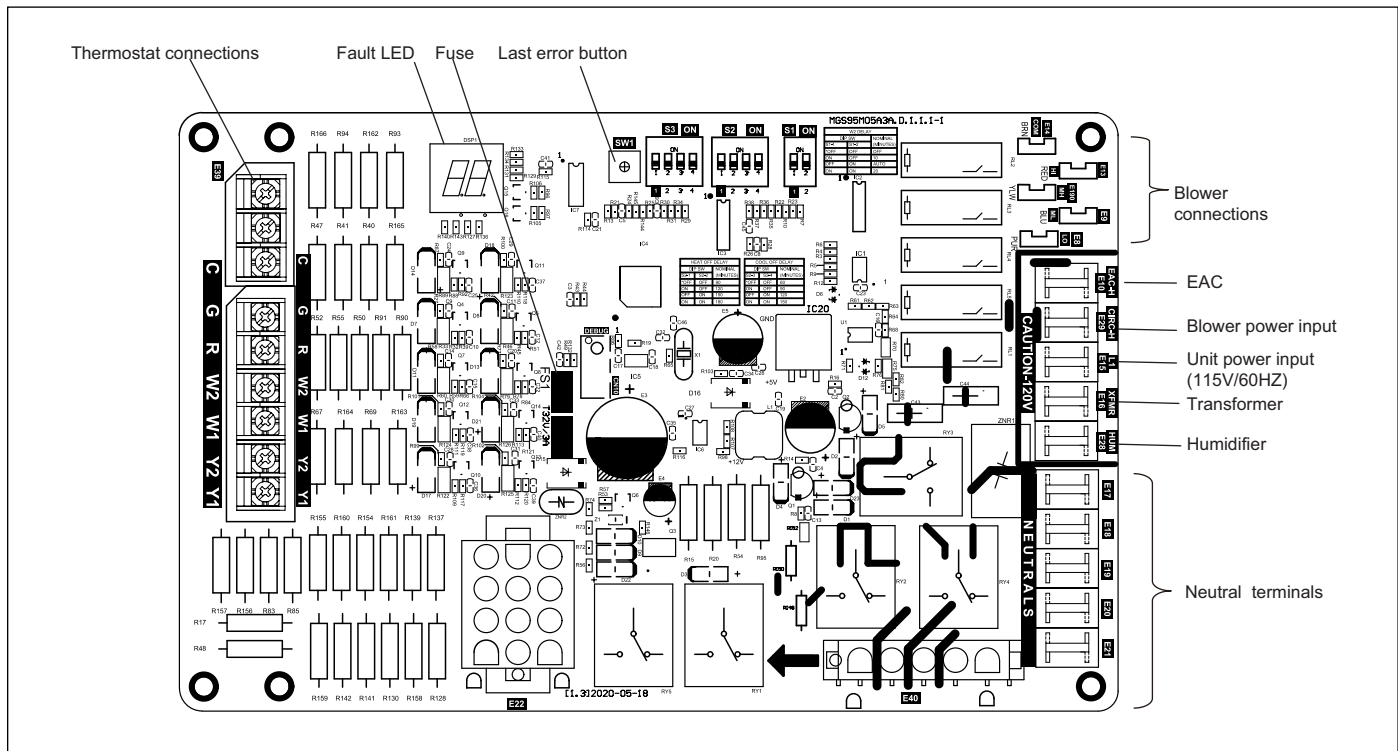
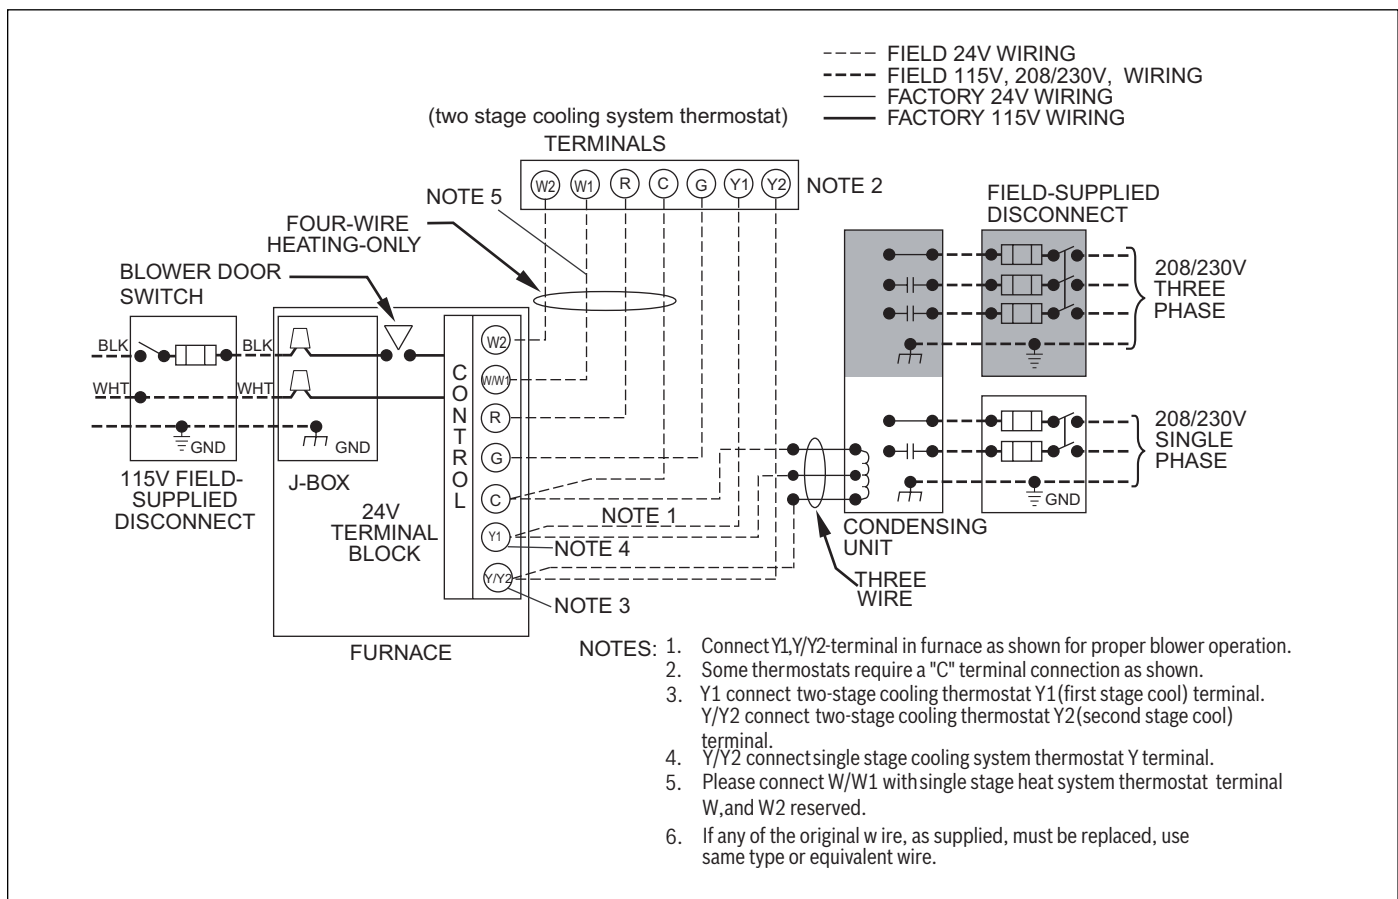

Figure 36 Furnace Control
Figure 37 Heating and Cooling Application Wiring Diagram with 2-Stage Thermostat
5. Connect line voltage leads as shown in Fig. 37.
See Fig. 36 and Fig 37.
12. Complete electrical box wiring and installation. Connect line voltage leads as shown in Fig. 37. Use best practices (NEC in U.S.) for wire bushings, strain relief, etc.
Make field 24V connections at the 24V terminal strip (See Fig. 36.). Connect terminal Y as shown in Section 10.8. Use only 18 AWG, color-coded, copper thermostat wire.
For connection to an Electronic Air Cleaner (if needed), use ¼-inch female quick connect terminals to engage with the two ¼-inch male quick connect terminals on the control board marked EAC-H and one of NEUTRALS. The terminals are rated for 115 VAC, 1.0 amps maximum and are energized when blower motor is in operation (see Figure 36).
Connect an accessory humidifier using the ¼-inch male quick connect terminals marked HUM and one of NEUTRALS, respectively, on the control board. The HUM is energized when gas valve relay is energized. The terminals are rated for 115VAC, 1.0 amps maximum (See Figure 36).
1. Maintain 115V wiring and ground. Improper polarity will result in rapid flashing LED and no furnace operation (See Fig. 37).
2. Make thermostat wire connections at the 24-V terminal block on the furnace control. Failure to make proper connections will result in improper operation (See Fig. 37).
Read and follow the wiring diagram (Fig. 36) very carefully.